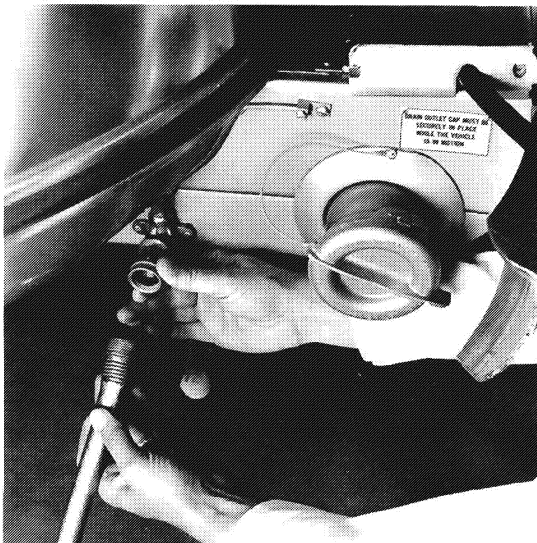

Fig. 4—City Water Hook-Up
**Hook up to water** (see Fig. 4) by attaching a ½" minimum high pressure water hose to the city water service.